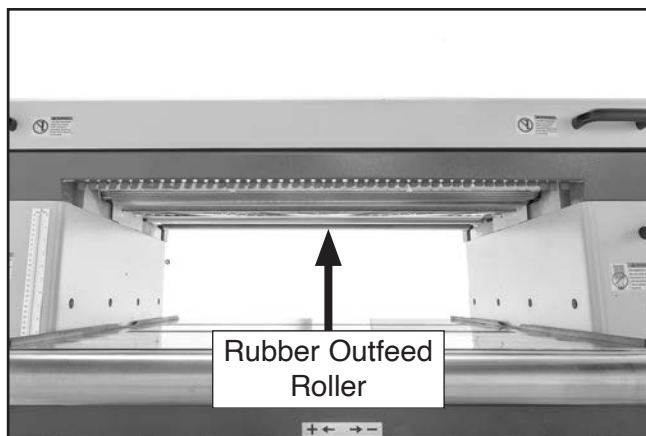

Figure 104. Location of rubber outfeed roller.
2. Position Rotacator/dial indicator under left-side of rubber outfeed roller (see **Figure 104**).